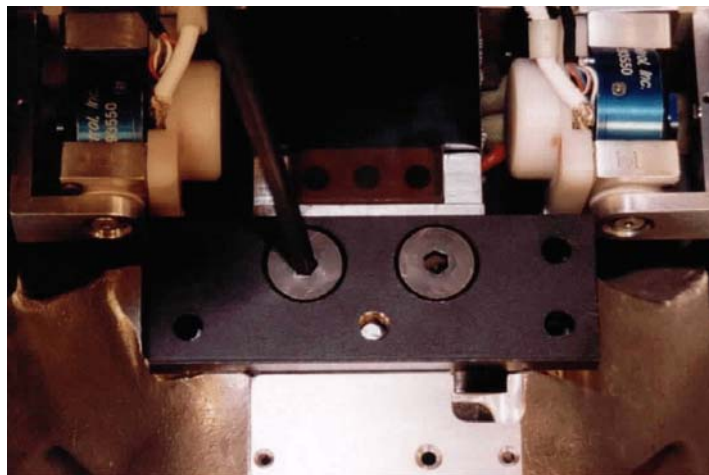

Figure 10.22- Rear attachment plate to spine
4. Attach the Rear Attachment Plate (T1LAM010) to the rear of the pelvis / lumbar mounting block using two 3/8-16 x 1" FHSCS {7/32}, as shown in **Figure 10.22**. The bottom surface of the plate should be flush with the bottom surface of the block.